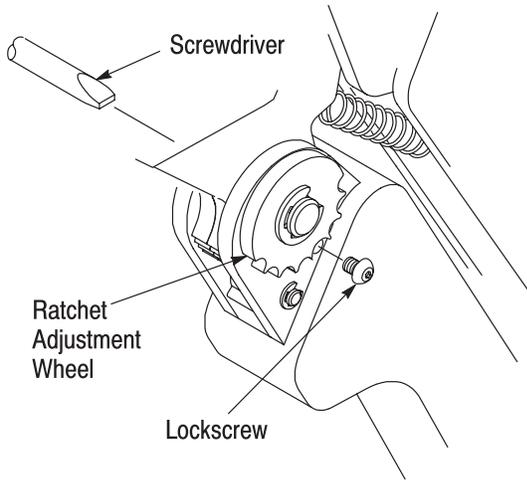

Figure 4
5. RATCHET ADJUSTMENT (Figure 4)